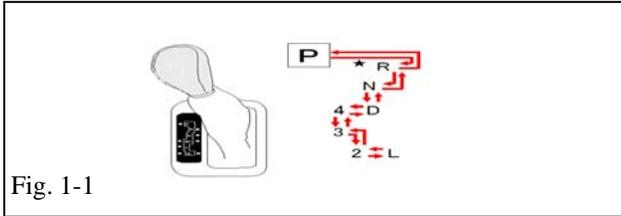

Fig. 1-1
- (c) Put automatic transmission in "P". (Fig. 1-1).